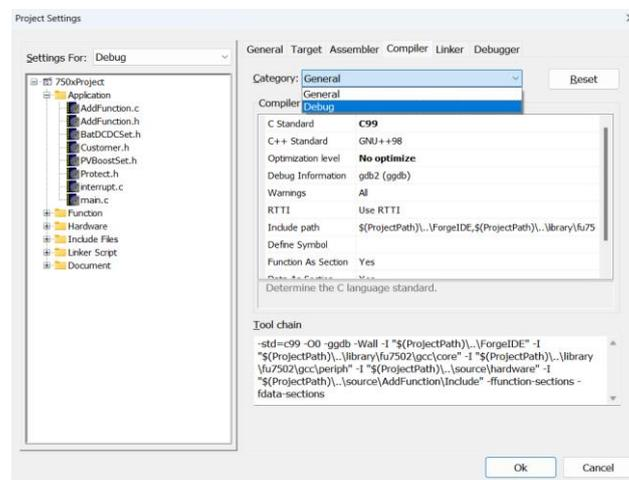

Figure 1-32
4. Compiler: Category has two categories: General and Debug, as shown in Figure 1-32 below;